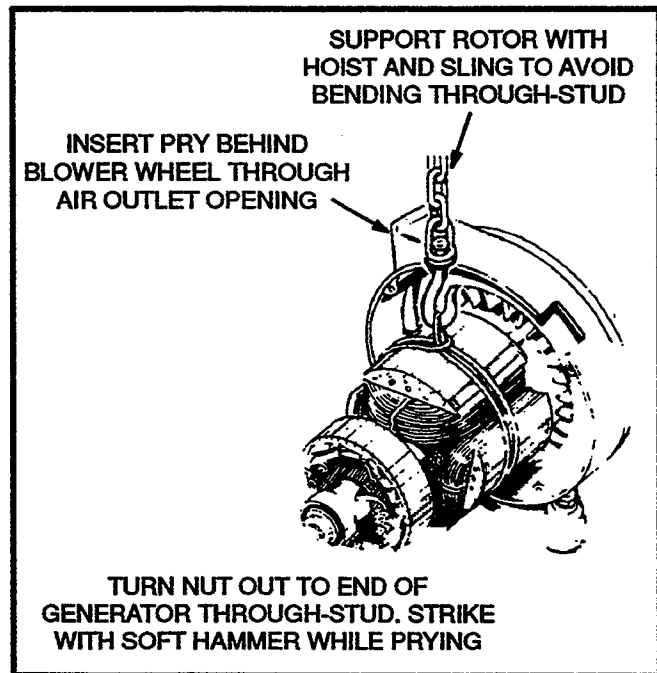

FIGURE 5-14. ROTOR REMOVAL
9. Support rotor with hoist and sling to avoid bending rotor through-stud (Figure 5-14).